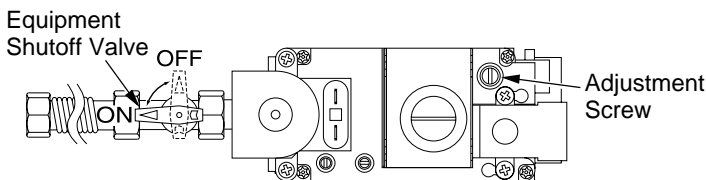

Figure 34 - Turning Equipment Shutoff Valve to the OFF Position
6. Turn equipment shutoff valve clockwise to the OFF position (see Figure 34, page 16). Do not force.
7. Wait five (5) minutes to clear out any gas. Then smell for gas, including near the floor. If you smell gas, STOP! Follow "B" in the safety information, above. If you don't smell gas, go to the next step.